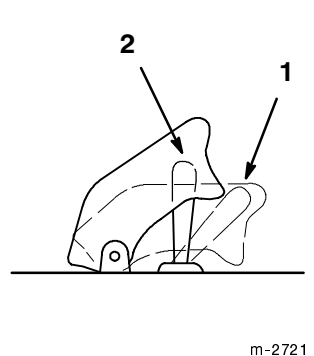

Figure 9
3. Move the PTO (power take off) switch to “OFF” (Fig. 9).